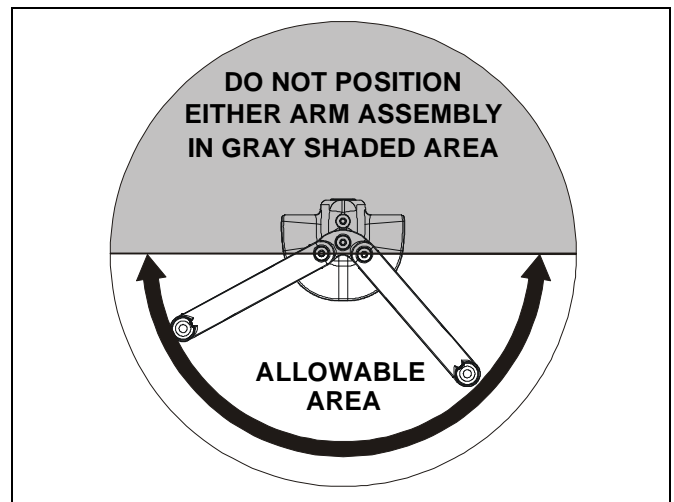

Figure 19: Allowable Arm Area
6. Position arm assembly (10) within UNSHADED area as shown (See Figure 19). Using 3/16" hex key, tighten screw (30) as required to maintain position.